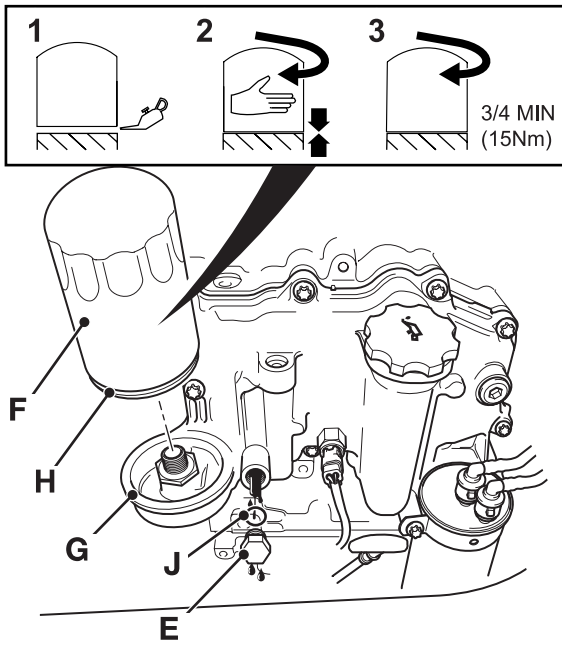

Fig 32.
- 5 Place a container of suitable size under drain plug **E** to catch the oil. ⇒ Fig 32. \(□ 3-69\).